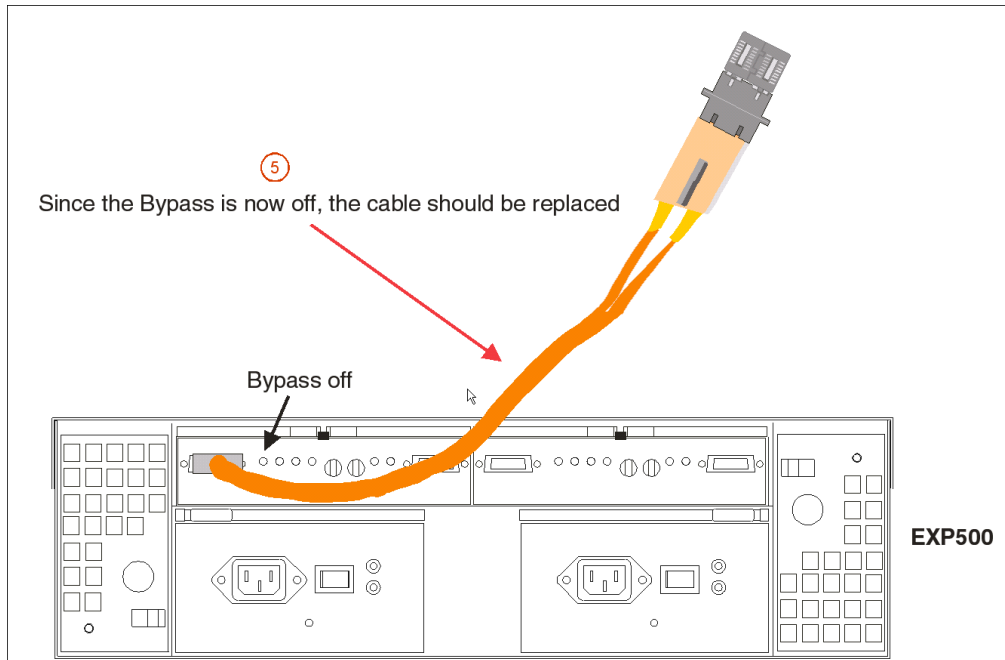

Figure 159. Insert wrap plug into element
5. As was shown in step 4, insert the wrap plug into the element from which the cable was removed in step 3. See Figure 159 on page 342.